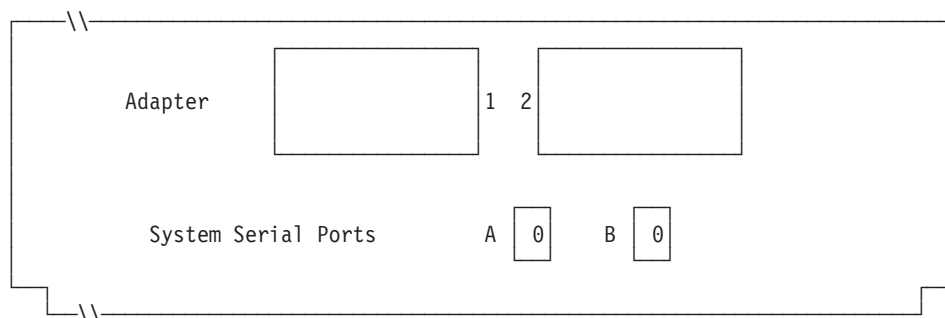

Figure 90. Right Side of Rear of 4693-4x1 Point-of-Sale Terminal
6. If terminal applications use the asynchronous port, write the port number on Figure 90. Use a 0 if the terminal does not use a port. Valid port numbers are 1, 2, 3, 4.